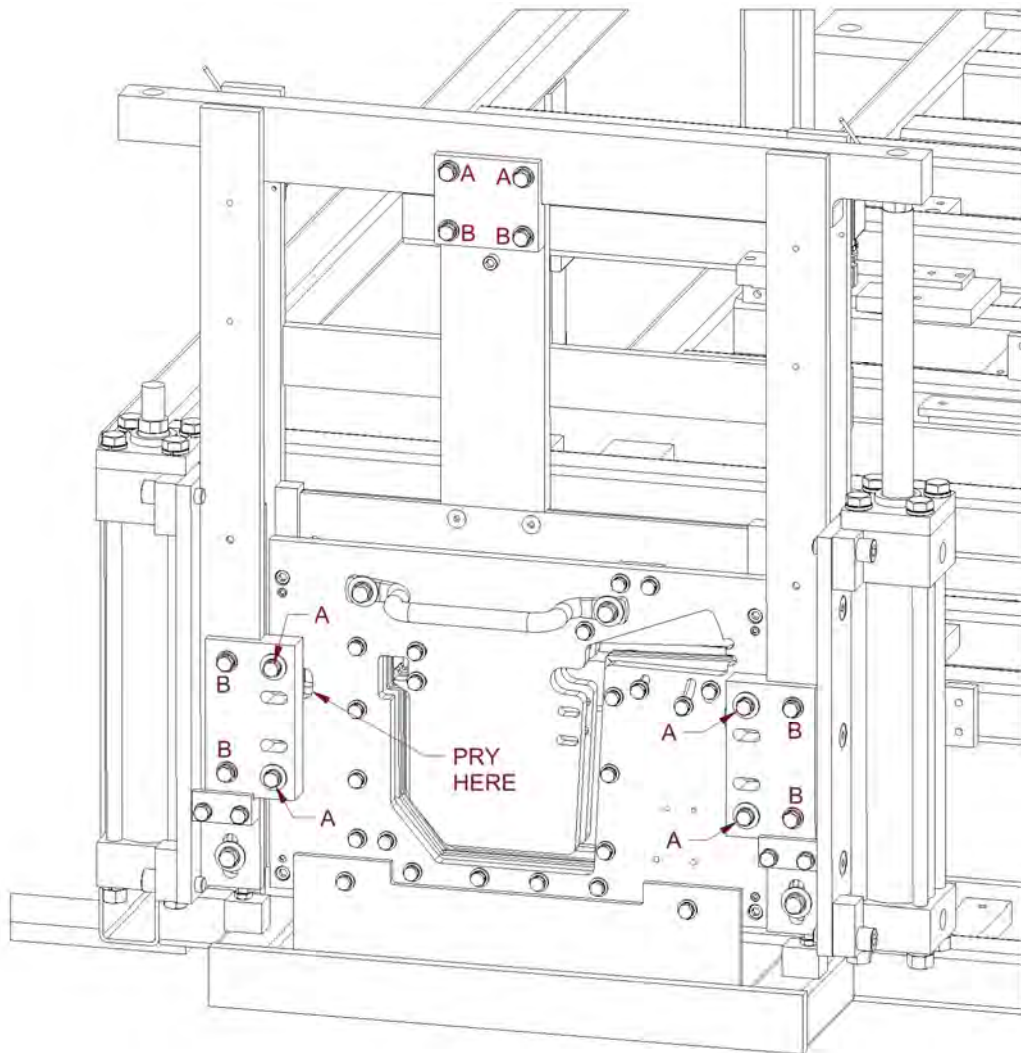

Figure 12: Shear Left-Right Adjustment and Removal
3. Use a large screwdriver to pry on the slots (Figure 12) until the shear is located correctly.